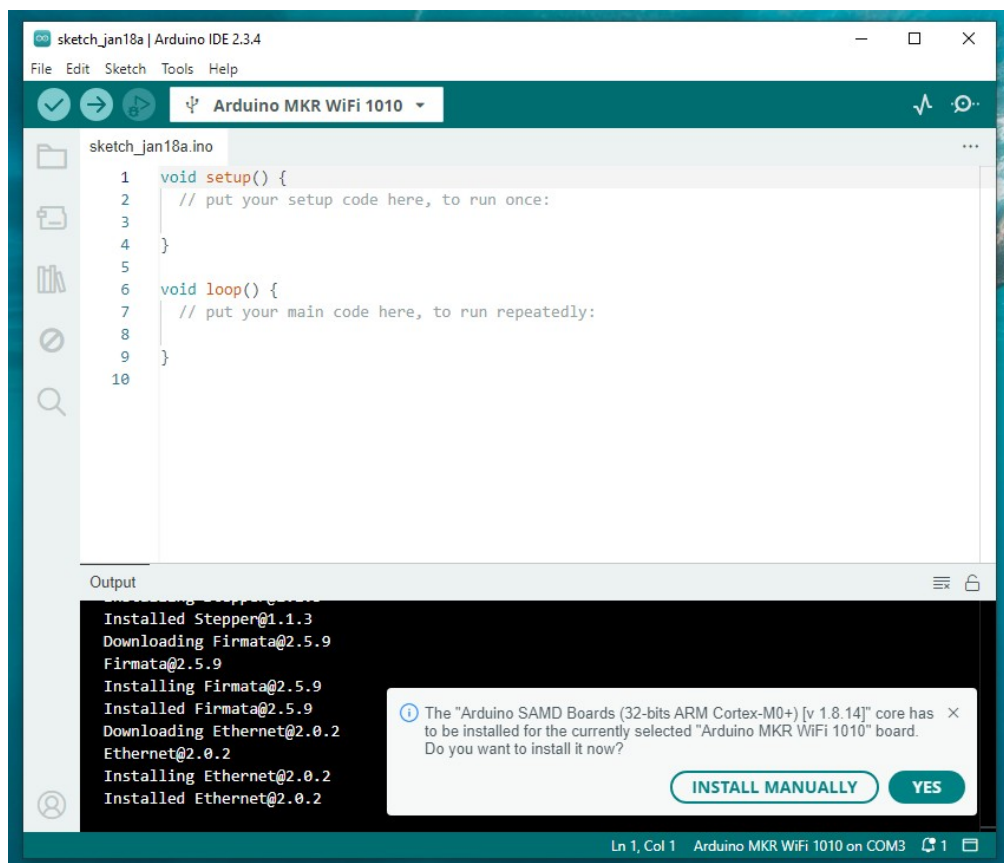

Figure 3 – Installing the appropriate board support packages
4. This then tells you that the board support package is not installed and asks if you want to install it (see Figure 3). Click “YES” here and it will install everything you need to compile and upload code to the Arduino MKR WiFi 1010 boards. Installing this on my home machine takes approximately 3 minutes – though it might take longer if you need to do it on the SHU managed desktop.